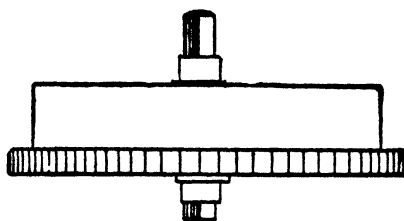

Fig. 28.—Barrel and Mainspring
Attention must next be directed to the barrel and mainspring (Fig. 28). Put a key on the winding square, and see if the watch is wound up or quite run down. If wound up, and it has stopped, it is proof that somewhere in the train wheels there is resistance to motion, which may be dirt between the teeth of the wheels, or dried-up oil or rust on the pivots, causing them to stick in their holes, or a bent tooth in a wheel, or a bent pivot. A search and examination should be made to locate the fault before taking the watch apart. See, by trying each wheel in succession, where the power fails. Then try the endshake and freedom of
**Cleaning Barrel and Mainspring.**—These parts, for which see Fig. 28 (page 11), can now be taken in hand. The barrel cover or lid is snapped into an undercut groove round the inside top edge of the barrel. To get it off, insert a screwdriver blade under the hollow cut at one part of the cover, and prise it off. The steel arbor can be taken out, but the mainspring is best left in. The cover and arbor can be cleaned in